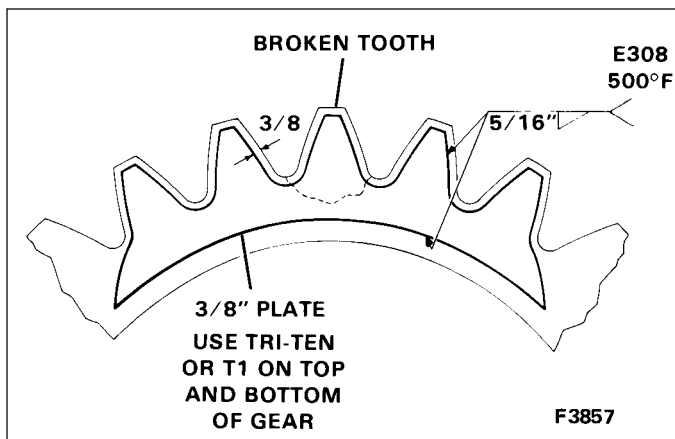

Figure 3-20. Tooth Reinforcement
6. After the tooth has been built up, the top and bottom of this area should be reinforced with a 3/8 inch (9.5 mm) plate, as shown in Figure 3-20. If the gear has cooled, warm the plate and gear to 600° F (316° C) again before welding the plate in place. Finish grinding the tooth contour.
9. Reinforce the top and bottom of the tooth, as shown in Figure 3-20.